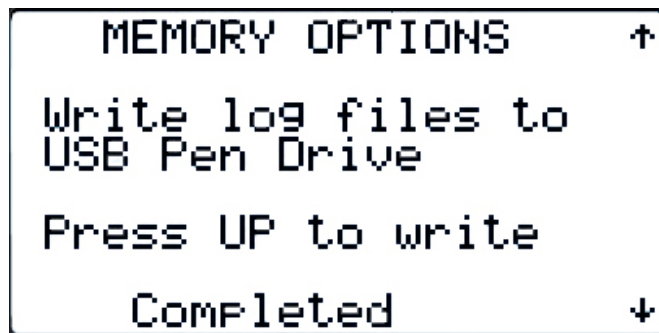

Figure 104
2.3.3.5 Memory Options (Figures 104 - 106)